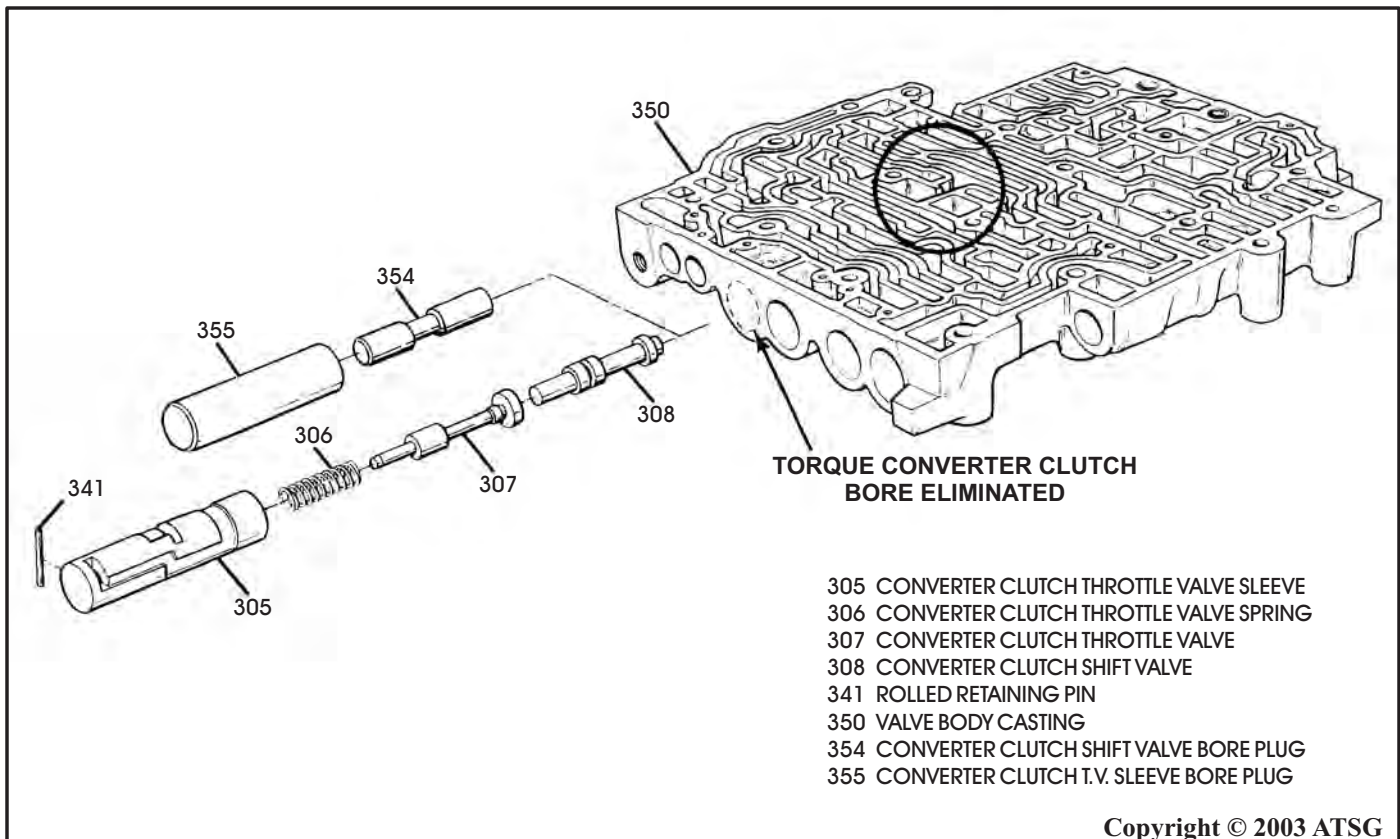

Figure 61
CHANGE: Beginning on November 15, (Julian Date 319) 1989, a new valve body assembly went into production on *all* models of the THM 700-R4 transmission, with the Torque Converter Clutch (TCC) bore eliminated, as shown in Figure 61. The converter clutch throttle valve was used on some previous models with Non-ECM controlled TCC apply.
- (1) VALVE BODY ASSEMBLY - The TCC bore was eliminated and in place of the TCC bore, a notch in the worm track channeling now allows 2nd clutch oil into the TCC signal circuit. The notch is shown inside the circle in Figure 61.